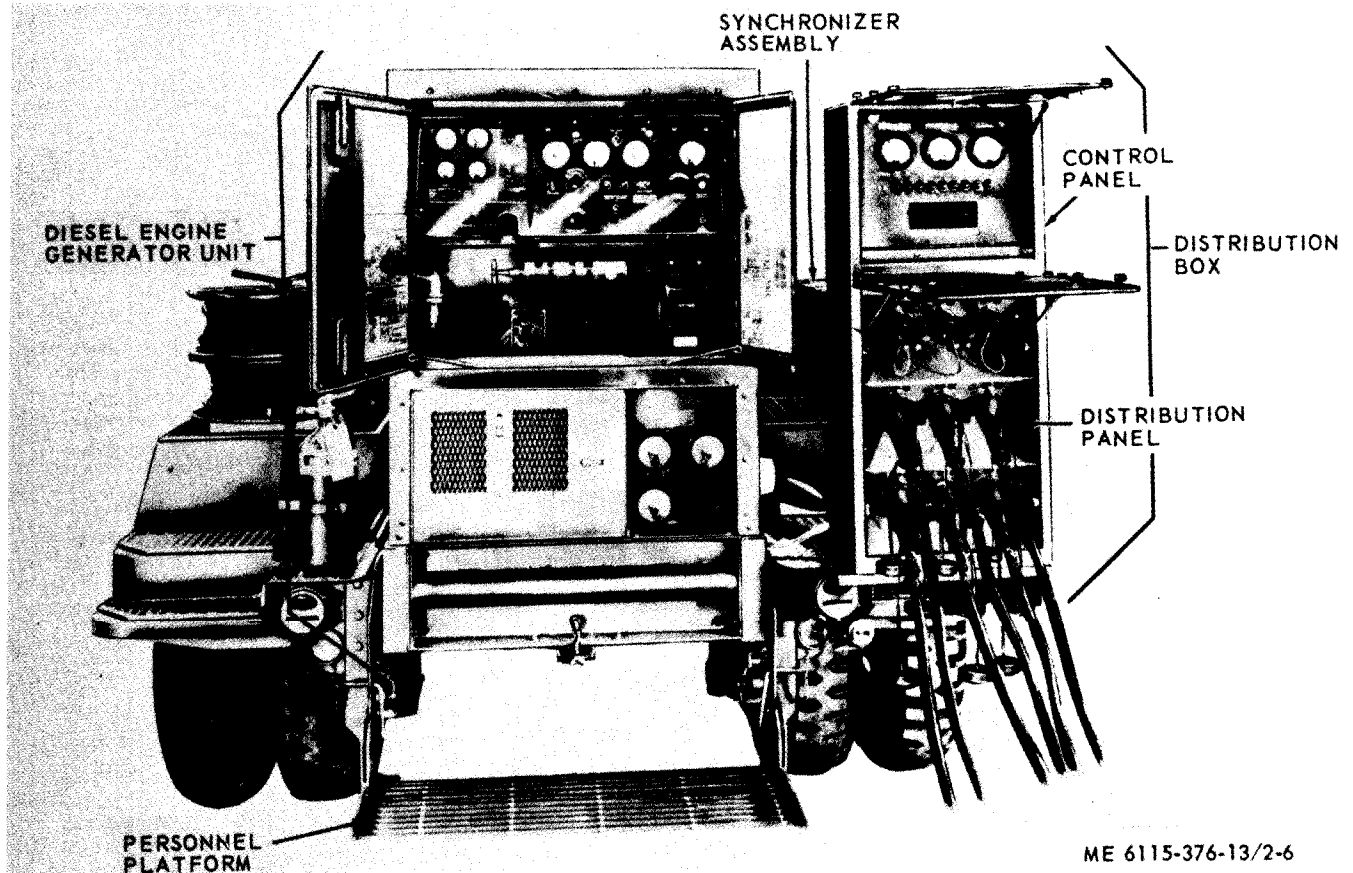

Figure 2-6. Trailer mounted DE generator set PU-407/M, ready for operation.
ponents and their location, Refer to figure 2-6 for the PU-407/M setup ready for operation,
(1) Perform procedures, given in c above.
(2) Momentarily place field flashing switch located below frequency meter (fig. 2-6) in upward position.
**If AC volts meter does not indicate a voltage buildup, the diesel engine is not up to rated speed, unlock engine throttle control, push in slightly, lock in place, and repeat procedure given in (2) above. Never place field flashing switch in upward position for longer than a few seconds, and never after generator has been energized.**
(3) Turn frequency adjustment control to midposition,
(4) Place electric governor switch to on,
(5) Unlock engine throttle control, push it in against control panel and lock in place.
(6) Adjust voltage adjusting rheostat for diesel voltage indication on volts meter.
(7) Adjust frequency adjustment control for diesel frequency indication on frequency meter.